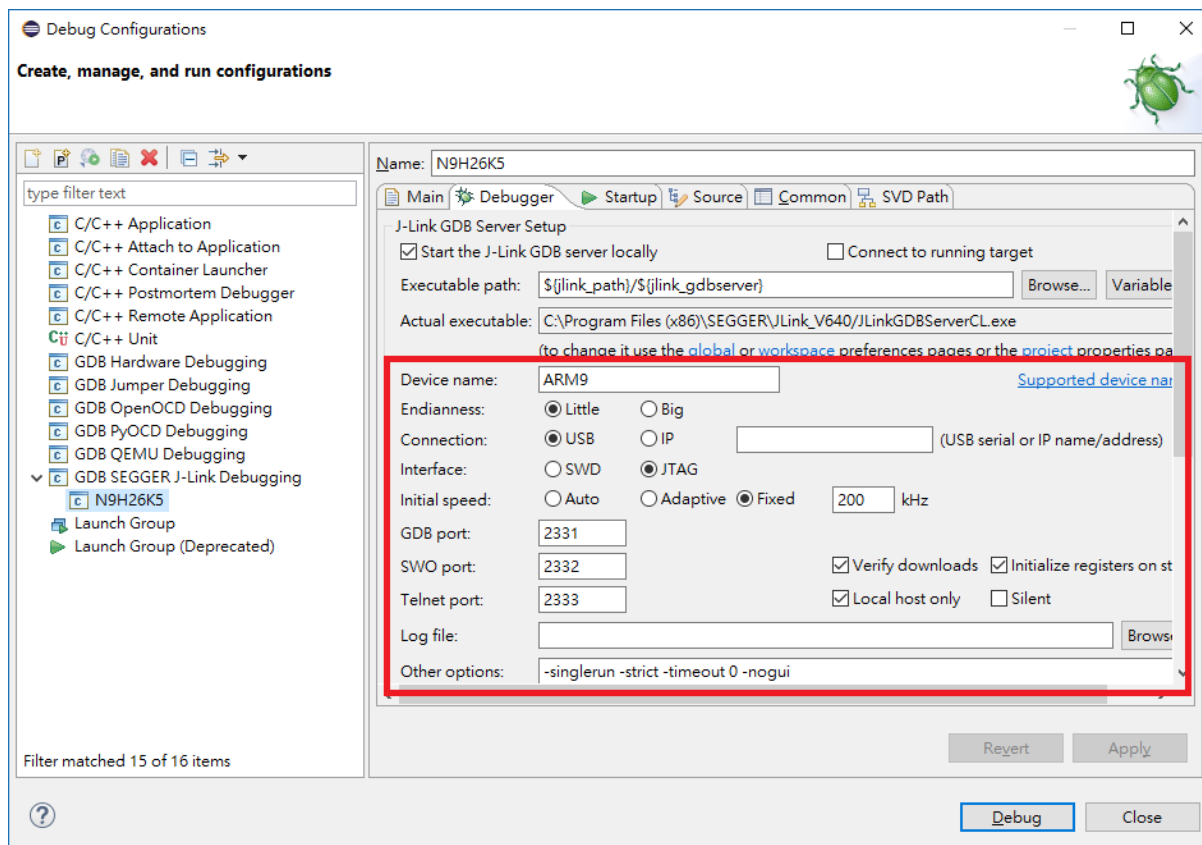

Figure 1-8 J-Link Debugger Setting
- Select the corresponding configuration matched with your device. Go to **Debugger** tab, as shown in Figure 1-8.